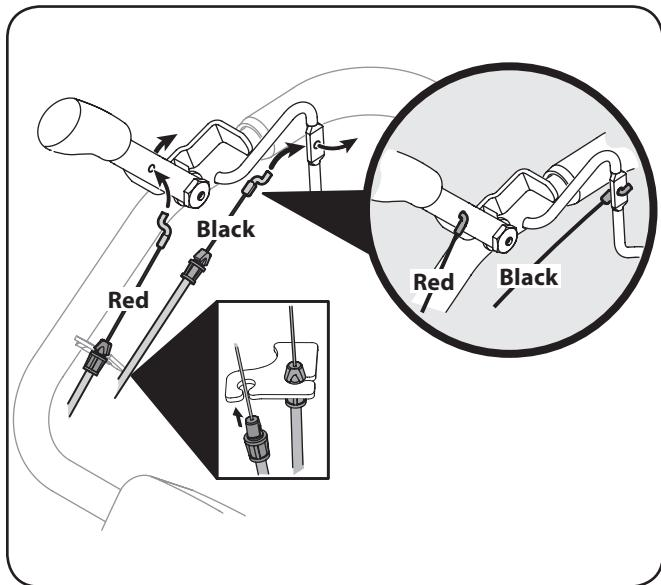

Figure 3-2
1. Route the two cables along the handle assembly on the right-hand side. See Figure 3-2.
2. Connect the reverse cable (Red) to the reverse cable control by feeding the z-hook through the hole on the reverse cable control from the inside towards the outside. Refer to Figure 3-2.
3. Connect the forward drive cable (Black) to the clutch bail by feeding the z-hook through the hole on the clutch bail from the outside towards the inside. See Figure 3-2.
4. Snap the cable housing clips into the handle assembly cable mount as seen here. The red clip (reverse cable) fits into the top position on the handle assembly, while the black clip (forward/clutch cable) feeds into the lower position on the handle assembly. See Figure 3-2.